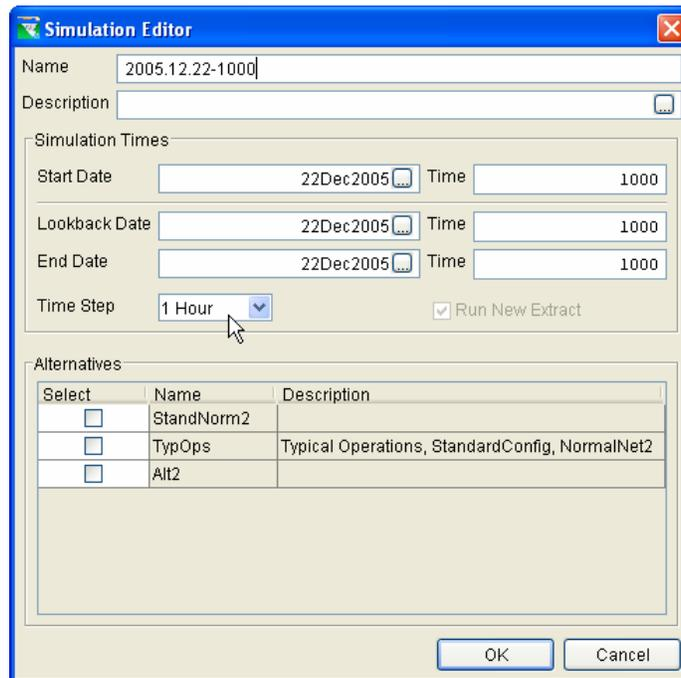

Figure 32 – Simulation Editor
1. **Create/Open a Simulation.** To create a Simulation, from the **Simulation** menu select **New**. The window illustrated in Figure 32 will open [Sections 14.2 and 14.3].